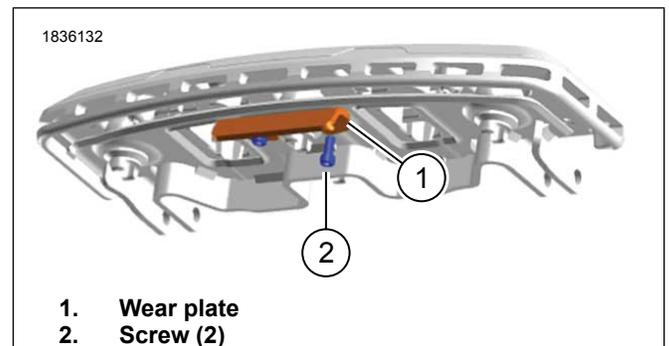

Figure 4. Floorboard Wear Plate
1. Figure 4 When servicing wear plate (1), remove existing wear plate screws (2).